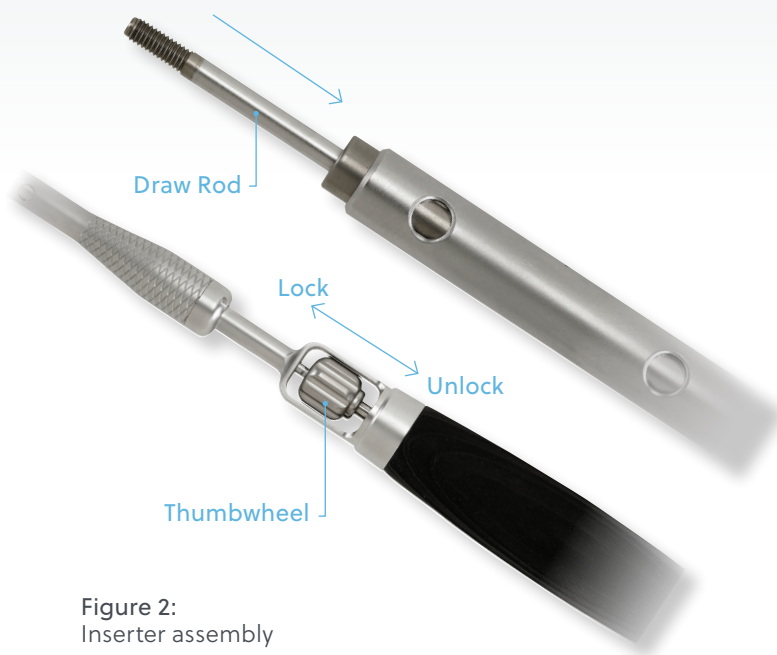

Figure 2:
- Assemble the inserter handle by inserting the inserter handle draw rod through the center of the inserter (**Figure 2**).